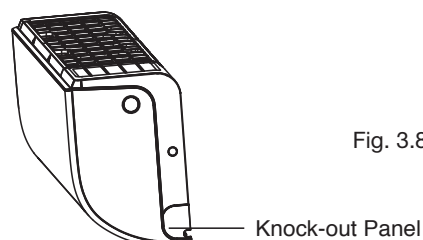

Fig. 3.8
2. If the wall hole is behind the unit, keep the knock-out panel in place. If the wall hole is to the side of the indoor unit, remove the plastic knock-out panel from that side of the unit. (See Fig. 3.8). This will create a slot through which your piping can exit the unit. Use needle nose pliers if the plastic panel is too difficult to remove by hand.